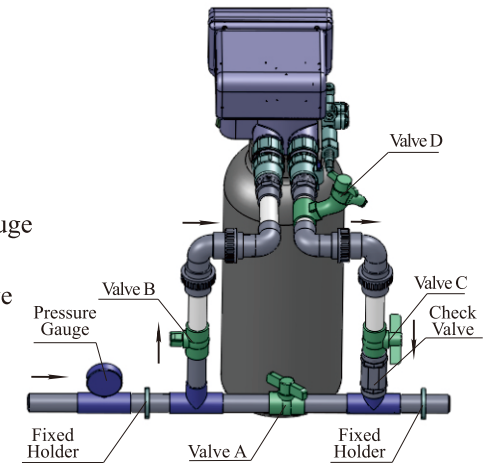

Figure 1-3
- a. As Figure 1-3 shows, install a pressure gauge in water inlet.